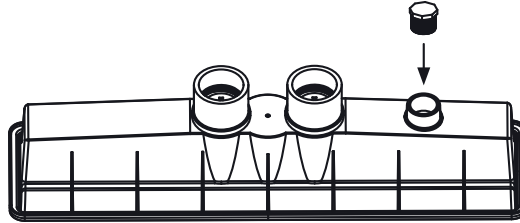

Figure 10
1. Glue the threads on the plug provided with the AVSC drain and screw it into the small port on the bottom of the drain to ensure a watertight seal (Figure 10).